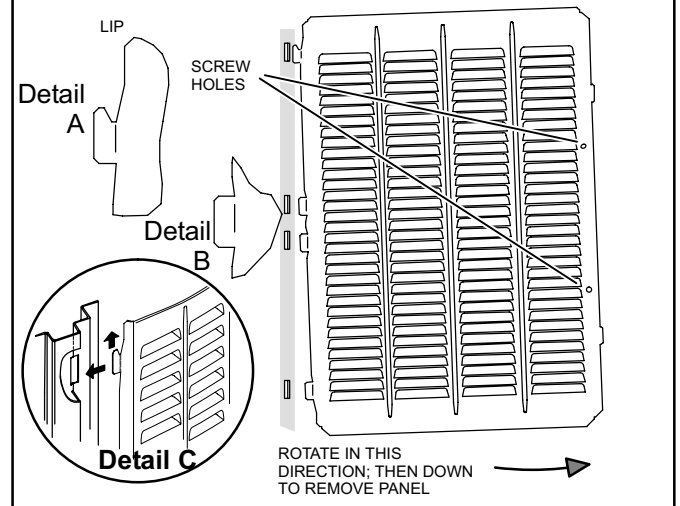

Figure 8. Removing/Installing Louvered Panels (Details A, B and C)
1. Remove 2 screws, allowing the panel to swing open slightly (see figure 8).
2. **Hold the panel firmly throughout this procedure.** Rotate bottom corner of panel away from hinge corner post until lower 3 tabs clear the slots (see figure 8, Detail B).
3. Move panel down until lip of upper tab clears the top slot in corner post (see figure 8, Detail A).
Position and Install Panel—Position the panel almost parallel with the unit (figure 8, Detail D) with the “screw side” as close to the unit as possible. Then, in a continuous motion:
- Slightly rotate and guide the lip of top tab inward (figure 8, Details A and C); then upward into the top slot of the hinge corner post.